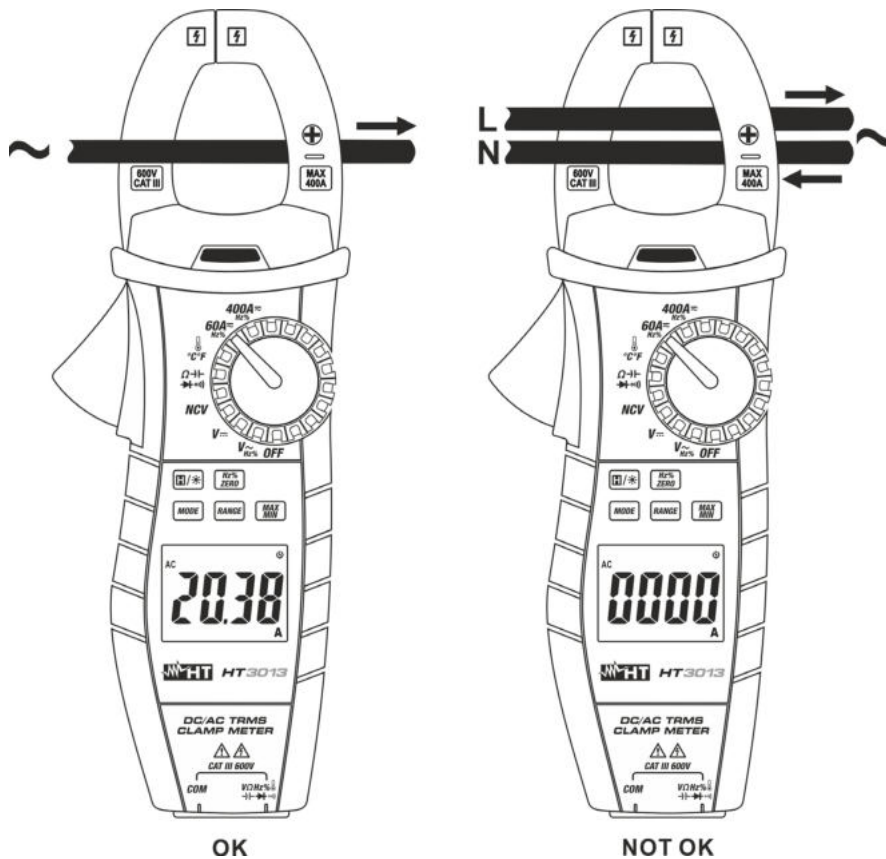

Fig. 11: Use of the instrument for AC and DC current measurement
6. **In DC mode** the “-” symbol at display means that the meter is connected in the opposite side compared with current direction (see Fig. 11). Follow the polarity indication arrow on the instrument's side (see Fig. 1 – part 13)